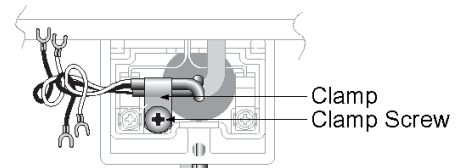

Fig.3
11. Loosen the clamp screw and secure wire cable with clamp. The clamp is in the box with the temperature controller. Make sure the length of the wire is long enough. There should be no tension in the wire. (Figure 3)